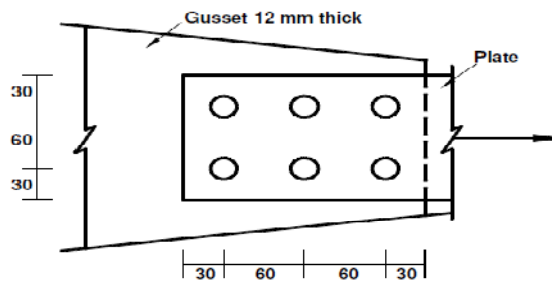

Fig. 1 Details of End Connections
3. Determine the design tensile strength of the plate 120 mm x 8 mm connected to a 12mm thick gusset plate with bolt holes as shown in Fig. 1. The yield strength and ultimate strength of the steel used are 250 MPa and 400 MPa. The diameter of the bolts used is 16 mm.